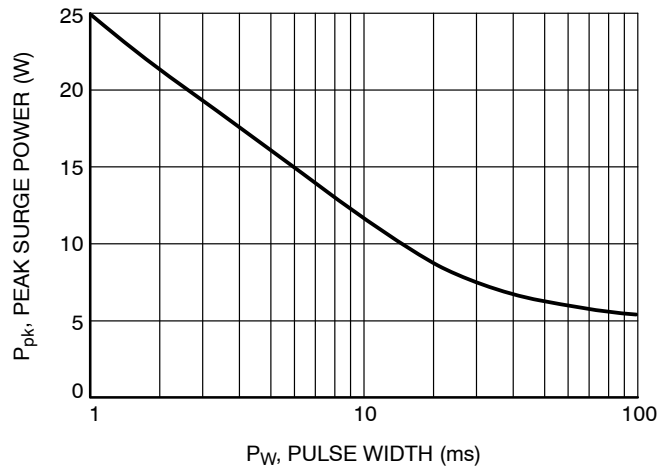

Figure 2. Maximum Non-repetitive Surge Power versus Pulse Width
- For different square pulse durations, see Figure 2.